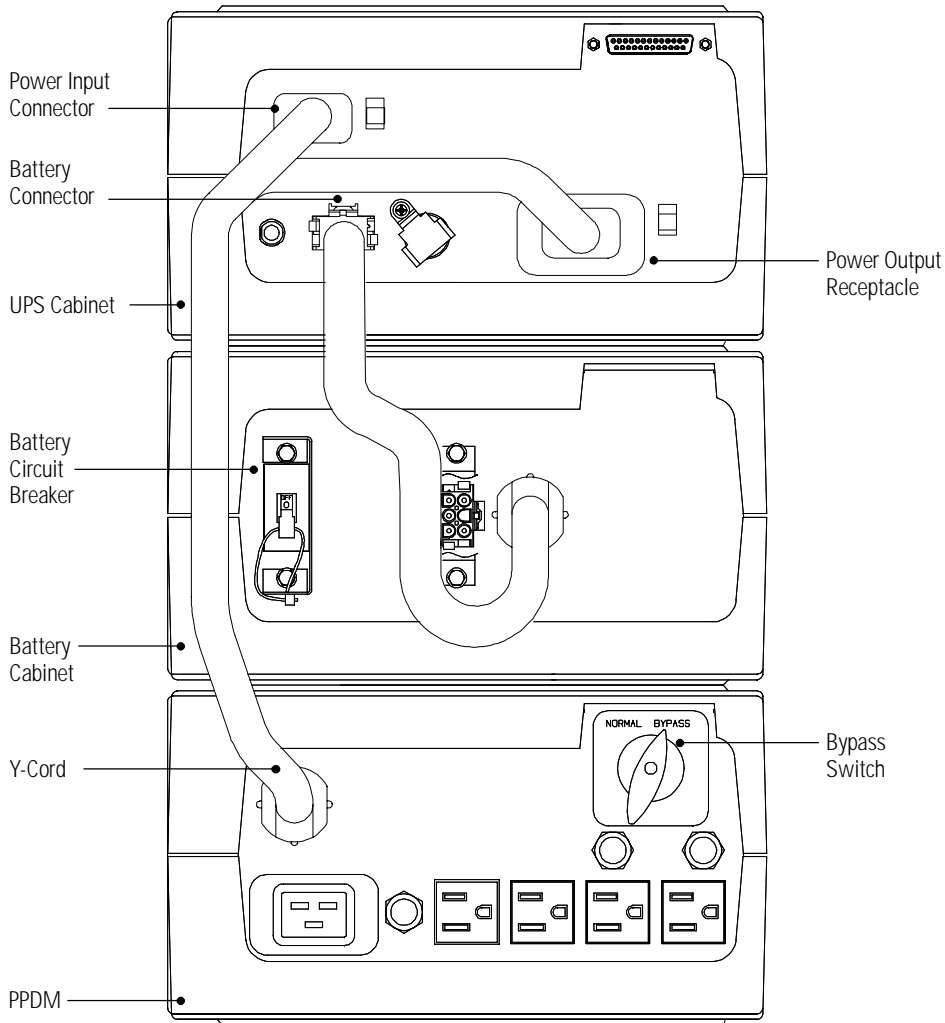

Figure 17. UPS with 5-15R PPDM Rear Panel
1. Turn the Bypass switch on the PPDM to the BYPASS position (see Figure 17). The PPDM is now powering your equipment from utility power.
4. Press and hold the Output  Off button while plugging the Y-cord of the PPDM into the power connectors on the UPS as shown in Figure 17.
- Plug the Y-cord of the PPDM into the power connectors on the UPS as shown in Figure 17.